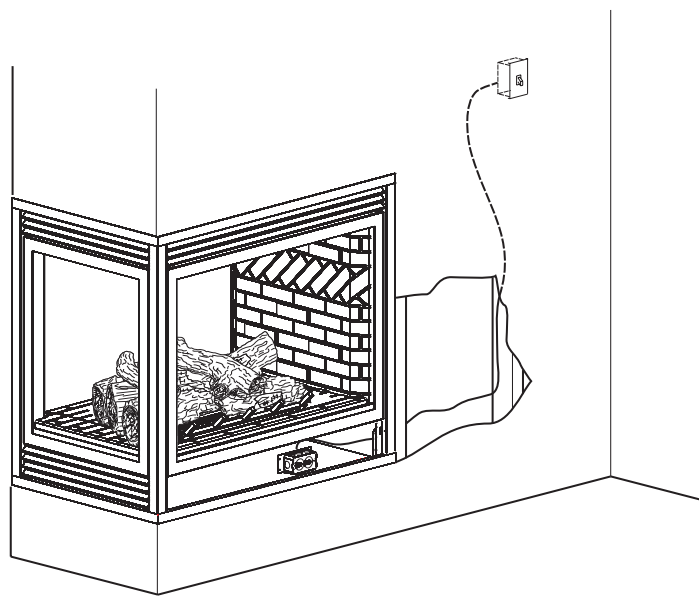

Figure 70
NOTE: Junction box is to be located in the lower compartment of the fireplace and must be pre-wired at time of fireplace installation for use with blower assembly. A standard ON/OFF wall switch or SCV-1 variable speed control kit should be installed to activate power to the Junction Box and provide power for the operation of the blower assembly. It is recommended that installation of the wiring be performed by a qualified electrician. **See Figure 70.**
8. To complete the installation, plug the power cord into the junction box receptacle previously installed in the bottom of the fireplace. **See Figures 70 and 71.**